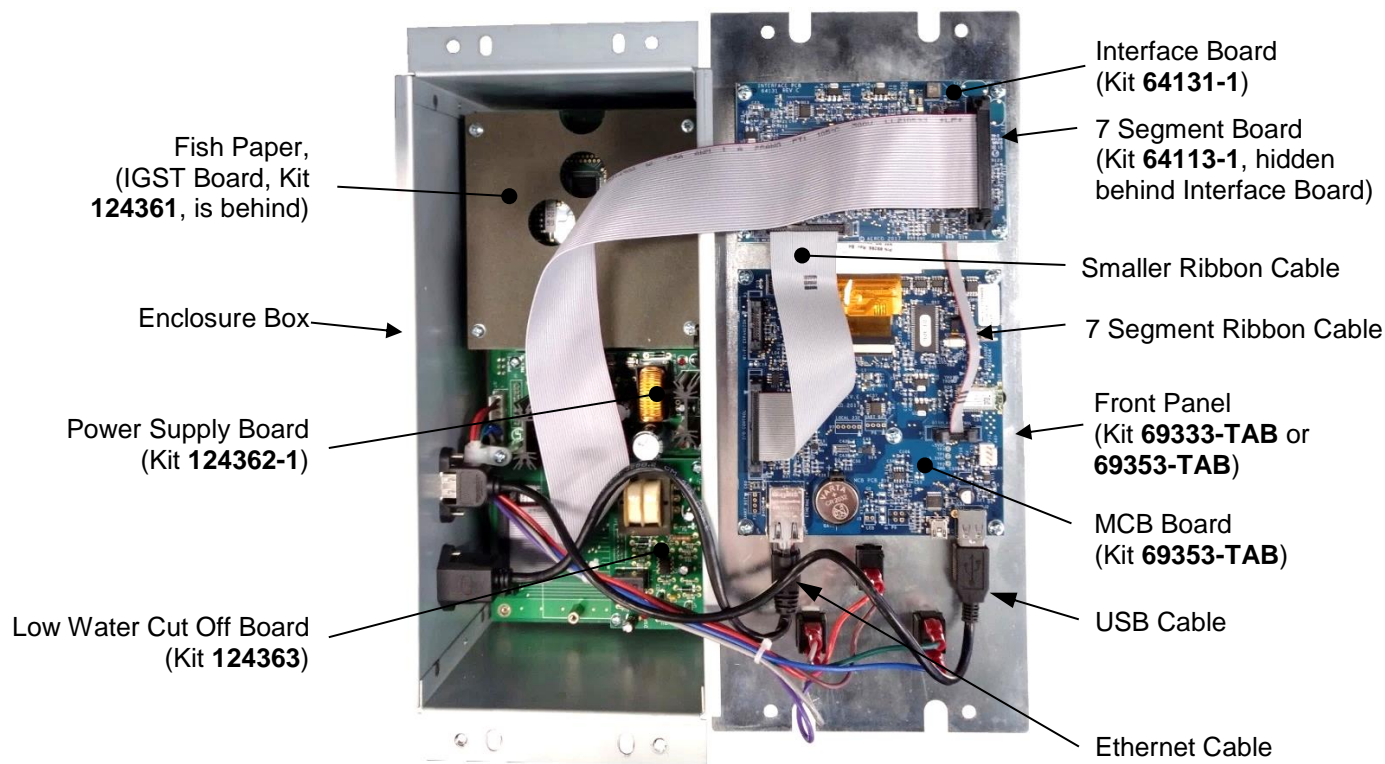

Figure 4 – Edge [i] Controller – Opened
To reattach the smaller ribbon cable (see Figure 4) to the Interface Board, push the tabs half way closed before pressing the ribbon cable's connector down on the pins. If the tabs are fully open, the connector won't seat properly. Once fully seated, close the tabs over the connector.
4. To replace the IGST Board (Kit **124361-1**), remove the screws holding the Fish Paper in place (see Figure 4, above), then remove the four (4) Hex Stand-offs on which the Fish Paper is mounted. The IGST Board can then be lifted out of the Enclosure Box.
5. Unplug the USB and Ethernet cables from the MCB Board (see Figure 4, above). NOTE: the Ethernet cable has a plastic tab that must be pushed down before the cable can be removed.
7. Turn the Controller on its left side (USB and Ethernet ports down), then remove 8 (eight) of the nine (9) screws from the Controller's back surface holding the Connector Board in place.